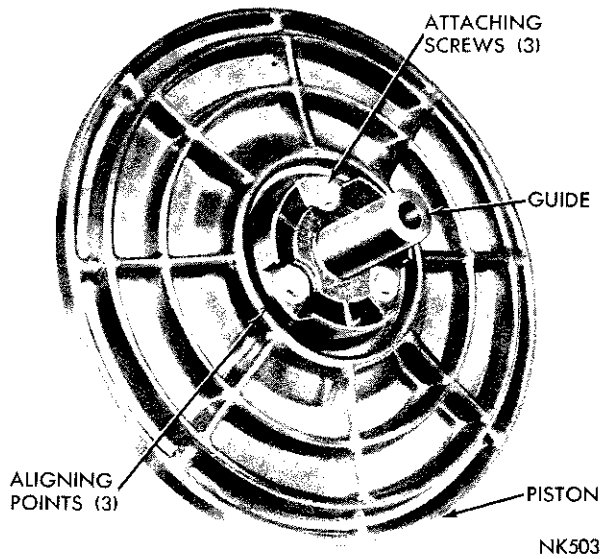
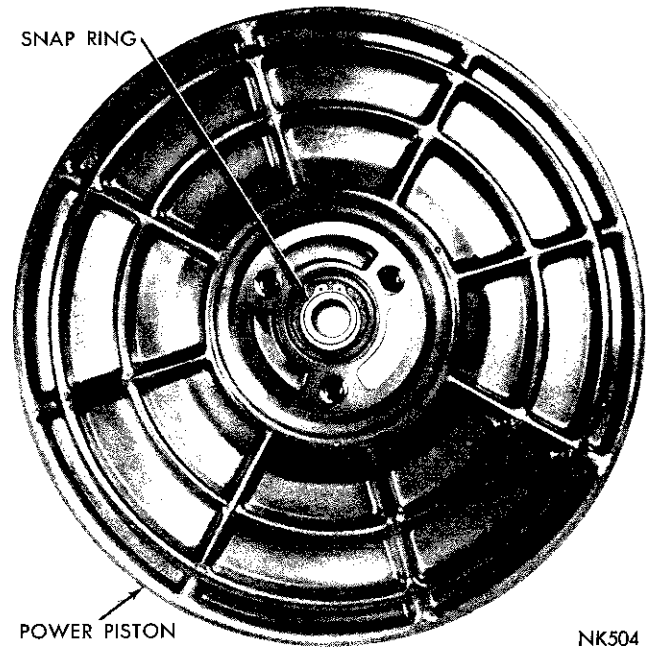

Fig. 29—Power Piston Guide Attaching Screws
Fig. 30—Control Piston Snap Ring
- (1) Remove the power piston diaphragm from the power piston and lay it aside on a clean shop towel.
- (2) Remove the screws that attach the plastic guide to the plastic power piston (Fig. 29). Remove the guide and place to one side.
- (3) Remove the power piston square seal ring, reaction ring insert, reaction ring and the reaction plate.
(4) Depress the operating rod slightly, then remove the truarc snap ring, using snap ring pliers (Fig. 30).
(5) Remove the control piston by pulling the operating rod straight out of the power piston.
(6) Remove the "O" seal ring from the end of the control piston.
(7) Remove the filter elements and dust felt from the control piston rod.
(1) Install the control piston "O" ring on the control piston and lubricate with silicone grease.
(2) Lubricate the control piston assembly with silicone grease and insert into the power piston. Install the tru-arc snap ring in its groove, using snap ring pliers (Fig. 30). Wipe all lubricant off the end of the control piston.
(3) Slide the air filter elements and felt seal over the push rod and down past the retaining shoulder on the rod. Install the power piston square seal ring in its groove.
(4) Install the reaction plate in the power piston, aligning the three holes with those in the power piston (Fig. 29).
(5) Place the rubber reaction ring in the reaction plate. **Do not lubricate this ring.**
(6) Lubricate the outer diameter of of the reaction insert with silicone grease and install in the reaction ring.
(7) Install the reaction insert bumper into the guide. Several small spots of silicone grease will hold the bumper in position while the guide is being installed into the power piston.
(8) Place the guide on the power piston, aligning the holes with the aligning points on the power piston (Fig. 29). Install the retaining screws and tighten from 80 to 100 inch pounds. (Remove any resulting chips.)
(9) Install the diaphragm on the power piston, making sure that the diaphragm is seated in the power piston groove.